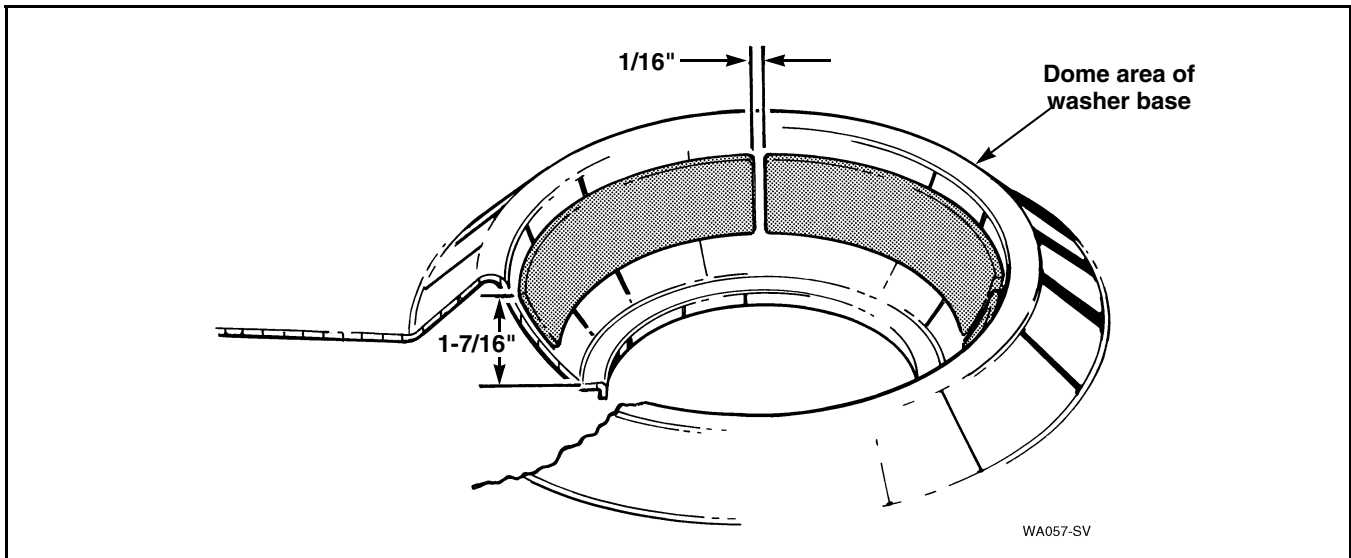

Figure 40
- Carefully align and apply the new snubber pad with fluffed side against the base dome and make sure pads are equally spaced. Refer to *Figure 40*.
IMPORTANT: The top edge of the snubber pads should be 1-7/16 inches from the lower part of the dome with a distance of 1/16 inch between the pads. Refer to *Figure 40*.